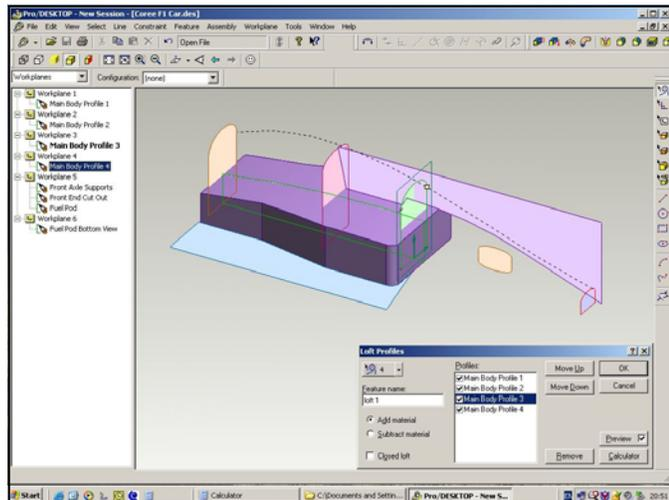

Figure 11 - All 4 Main Body Profiles Selected.
- 4) Repeat step 3 for **Main Body Profile 2, 3, and 4**. See Figure 11.